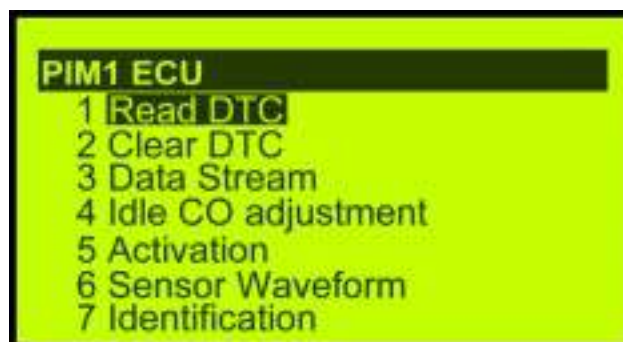

Fig 5
4. In the (2/2) menu, press "ENTER" and then enter into the main menu. (as fig 5)